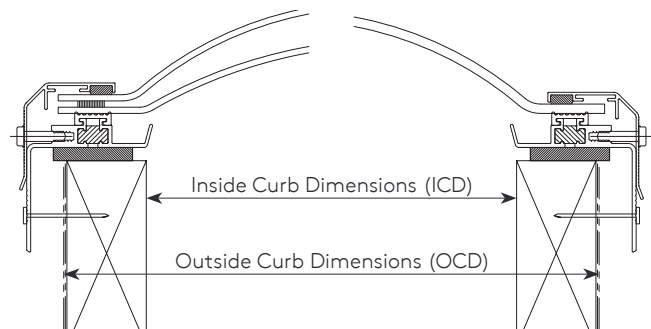

Figure 1.0
- Prepare the roof opening per the manufacturer's dimensions. Most of the time the dimensions will be called out as both Outside Curb Dimensions (OCD) and Inside Curb Dimensions (ICD). (See Figure 1.0) Remember to take into account the thickness of the curb. Most are 1.5" or 2" wide but they do vary.